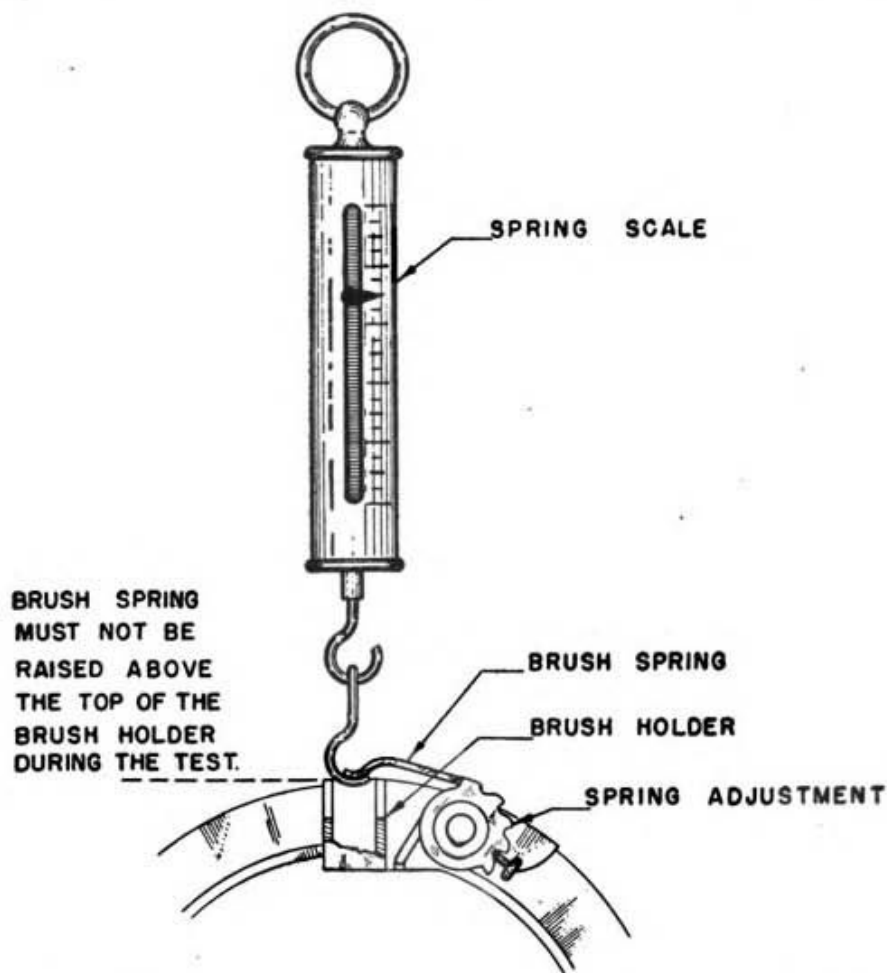

Figure 79. Testing the spring tension of generator brush springs.
(4) **LOW BRUSH SPRING TENSION.** Brush springs become weakened with age and use. A spring balance is used to check the springs. (See fig. 79.) Adjust spring tension to the proper setting as